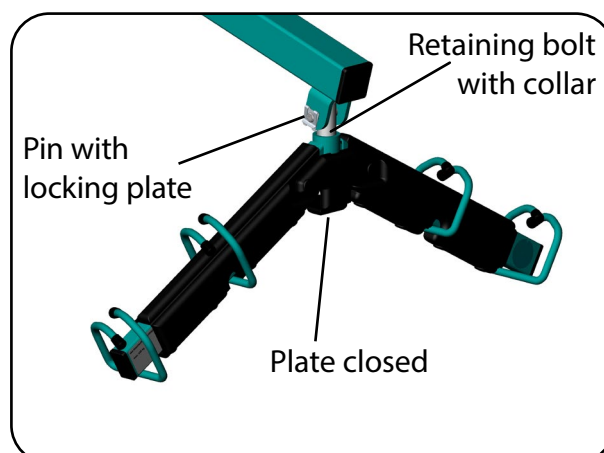

Fig. 6.2.07 – Spreader bar installed
13. Attach the spreader bar with the inserted retaining bolt with collar to the lifting arm by inserting the bolt through the holes on the end of the lifting arm. Secure the pin with the locking plate and close the bar padding (plate) (Fig. 6.2.07).